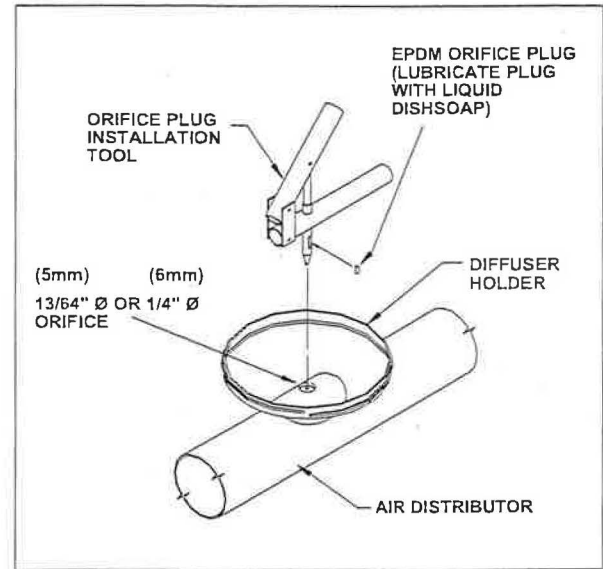

Figure 37
3. Check the erection drawings for the location of possible blank diffuser sites and plug the orifice hole in accordance with Figure 37 and the installation instructions found on page 15.
Locate "BLANK" diffuser sites and plug the orifice as shown in Figure 37 and described on the erection drawings.
If the operator feels this D.O. level is not needed, the simplest solution is to take some of the diffuser units out of service by plugging the orifice as shown in the installation instructions. See Figure 37.